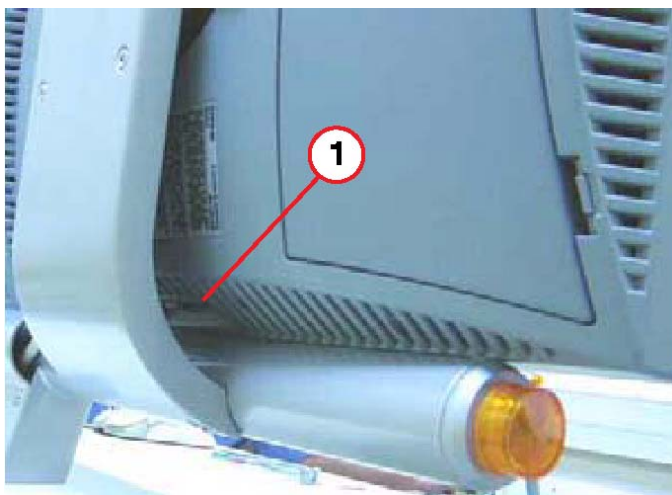

Fig. 2
- Select the OSD main menu by turning (don't press) the control wheel (1/Fig.2) on the rear side of the monitor.